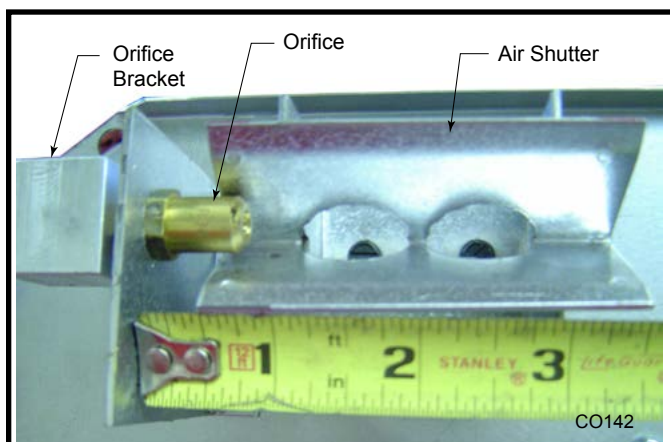

**Fig. 79** Remove three (3) nuts securing ember bed in place.
1. Remove three (3) 3/8" nuts on bottom side of burner pan. (Fig. 79)
2. Thread and tighten 3/8" nuts back onto pem studs on underneath side of control panel, reversing Step 1 shown in Figure 79.